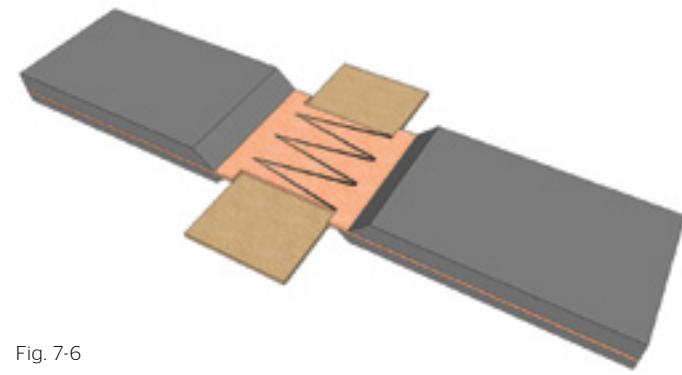

Fig. 7-6
27. Carefully dry fit the belt ends to ensure the fingers are still properly fitted and the bottom cover composite is fitted to each end bottom cover skives. The fingers must have a small gap between them. Do not permit the fingers to overlap. Refer to Fig. 7-6.